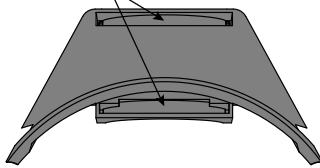

Figure 1. Zip Tie Channels
2. Thread zip ties through slots in shield. (Figure 1)